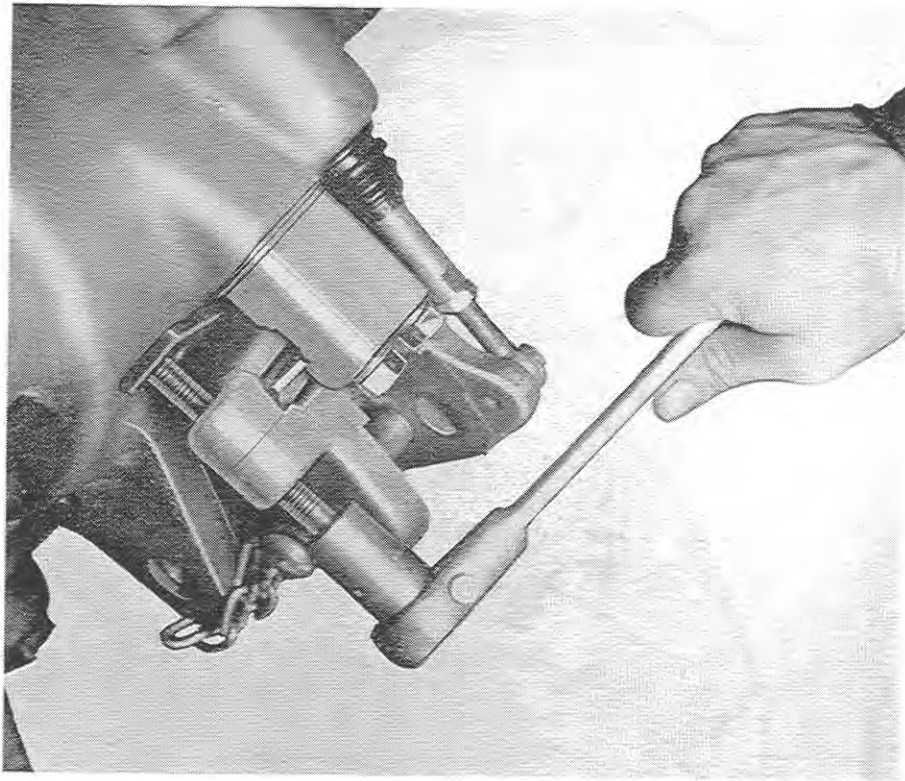

Fig. 19
- 2) Bring the control spring into contact with the rear face of its stop bracket by means of a long screw replacing the Allen screw which attaches the stirrup (Fig. 19). Stop tightening as the spring is in contact.